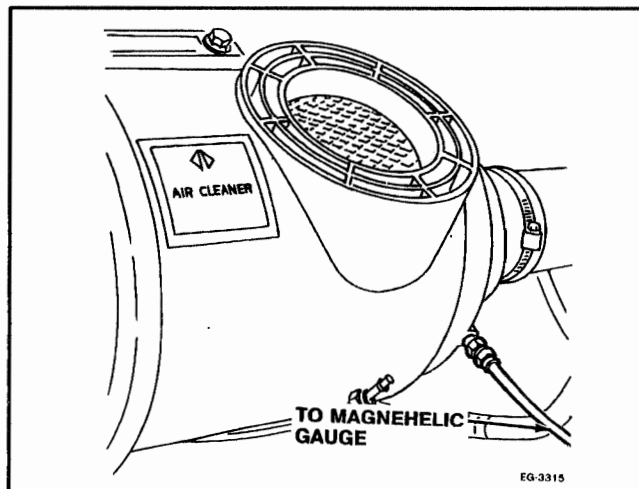

Figure 2.3-5. – Restriction Test Location
1. Attach the restriction test gauge (Figure 2.3-5.) at air cleaner housing tap location.